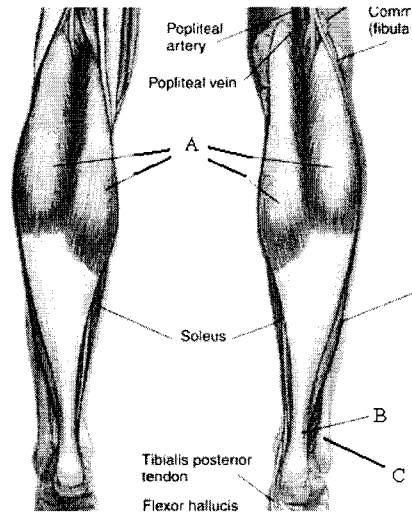

Figure 5 : Lower limb muscles
1.6. According to Figure 5, What are names of muscles A, tendon B and bone C? (3 points)